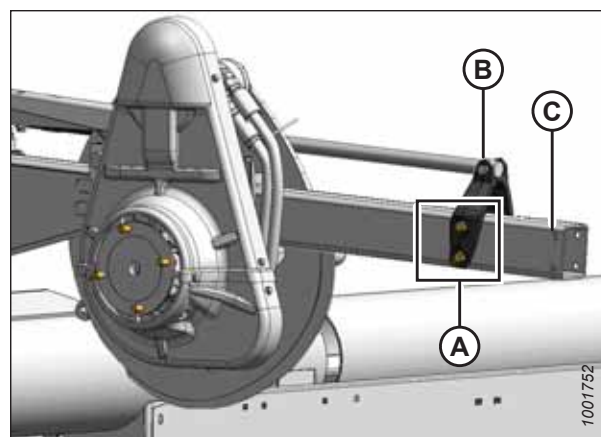

Figure 3.74: Rearward Position
- Rearward position, refer to Figure 3.74, page 85
5. Reinstall four bolts (A) to secure bracket (B) to reel arm at new position.